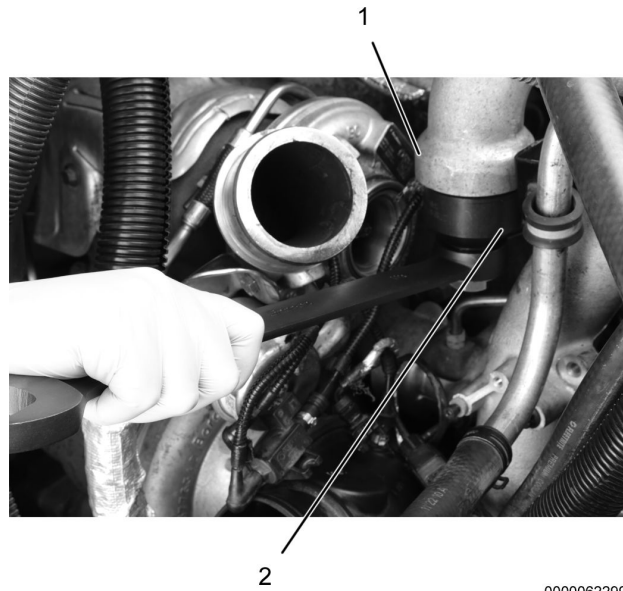

Figure 2. Interstage Cooler Outlet Lip Seal Removal.
2. Install the ZTSE4937-2 Seal Remover (Figure 2, Item 2) into ISC outlet (Figure 2, Item 1).
3. Using a 1 1/4-in combination wrench, thread ISC seal remover (Figure 2, Item 2) into the outlet (Figure 2, Item 1) until it tightly grips crossover tube seal.
4. Using the provided bolt and washer, secure the box end of 1 1/4-in combination wrench to the seal remover (Figure 2, Item 2).
5. Using an up-and-down prying motion, rock the seal out of ISC outlet (Figure 2, Item 1).